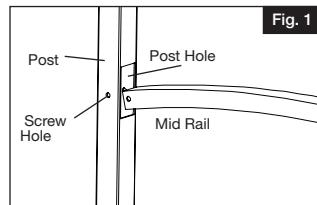

Fig. 1
- Insert the ends of the curved mid rail into the holes of each post making sure holes in rail align with holes in post (Fig. 1).